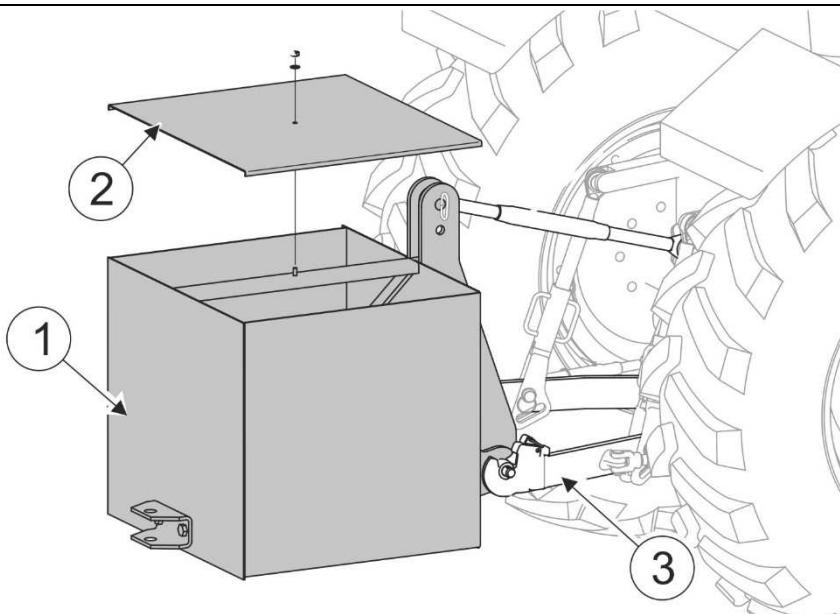

FIG. 4.1 Counterweight attached to the tractor rear three-point linkage.
- mount the counterweight box on the tractor rear three-point linkage and fill it with a load of min. 700 kg (Figure 4.1).